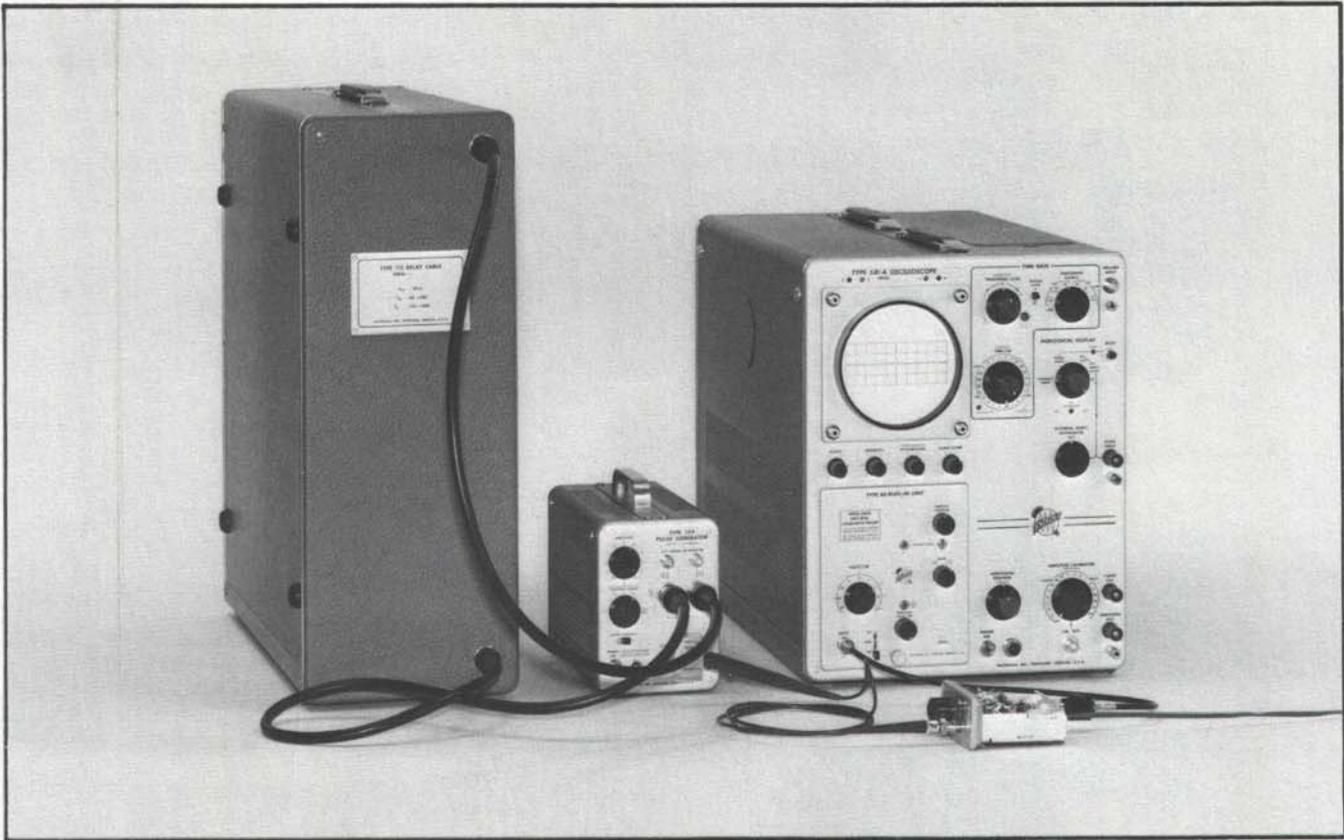

Fig. 5-5. Test setup for high-frequency compensation adjustments.
- c. Connect the P6022 probe from the Type 134 to the test fixture (see Fig. 5-5).